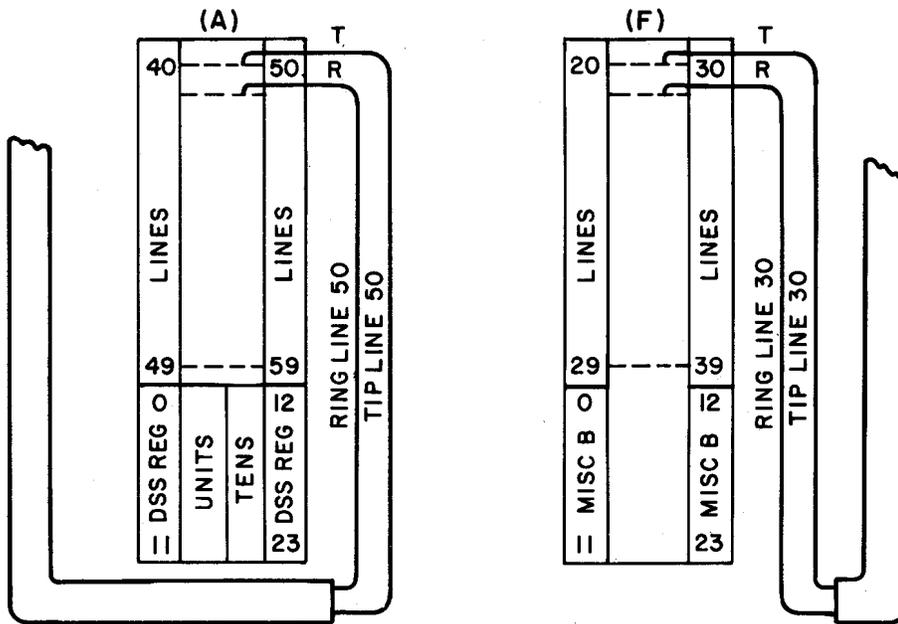

Fig. 3—Method of Terminating Tip and Ring Leads
- (1) Connect **T** and **R** leads from station to designated terminals in crown of cabinet as shown in Fig. 3. Refer to Fig. 1 for position of blocks A and F.
**Note:** Lists 4 and 9 (MD) cabinet assemblies are shop wired with a jumper cable from station lines 20-39 terminal block F to their respective DSS terminal block G through L in crown. When installing a station line not arranged for direct station selection (DSS), disconnect **T** and **R** leads of jumper cable from station line block F and terminate leads from station. Insulate and turn back leads of jumper cable.